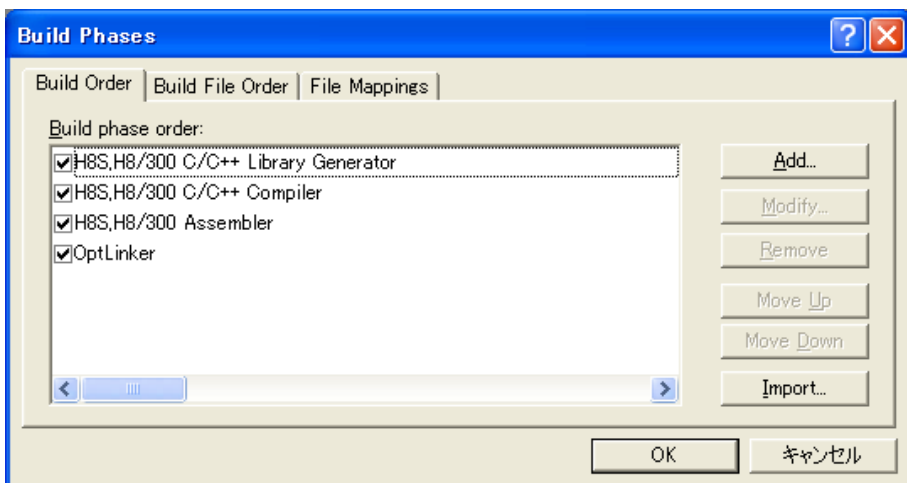

Figure 1 [Build Phases] Dialog Box
- (1) Open a project file and select [Build -> Build Phases...] to invoke the [Build Phases] dialog box (Figure 1). Click "Add..." button.